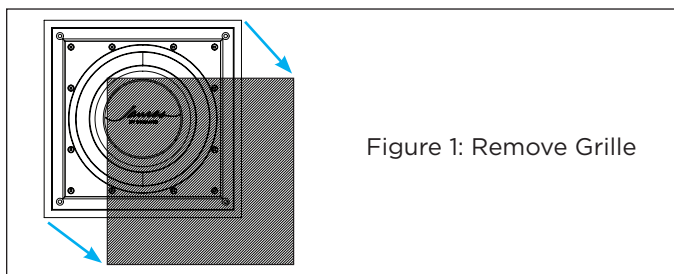

Figure 1: Remove Grille
1. Before installation, remove the grille from the subwoofer. The grille is secured with a press-fit retention system along the edges and corners. Starting at one corner, gently pull along each edge to evenly release each connection point, then set the grille aside (see Figure 1).